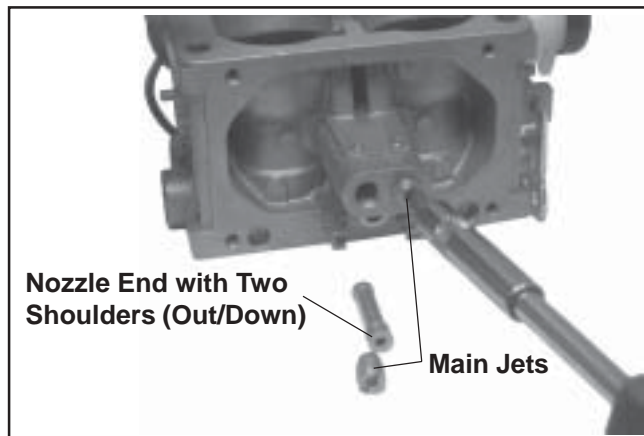

Figure 5-54. Installing Main Nozzles and Main Jets.
8. Install the two main nozzles into the towers of the carburetor body. The end of the main nozzles with the two raised shoulders should be out/down (adjacent to the main jets). Make sure the nozzles are completely bottomed. Carefully install the main jets into the towers of the carburetor body on the appropriate side, as identified when removal was performed. See Figure 5-54.